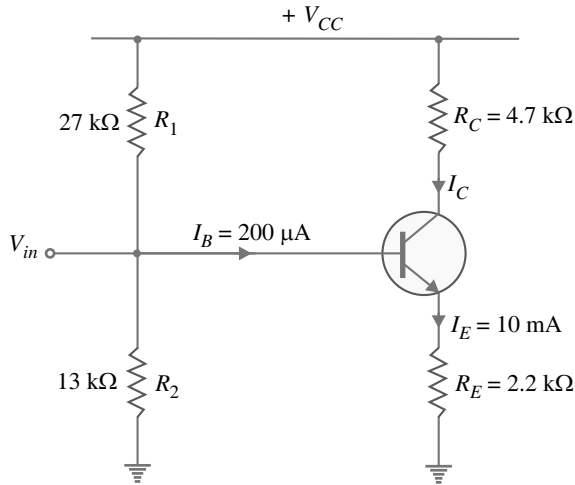

Fig. 8.39
**Example 8.23.** For the circuit shown in Fig. 8.39, determine (i) the current gain (ii) the voltage gain and (iii) the power gain. Neglect the ac emitter resistance for the transistor.